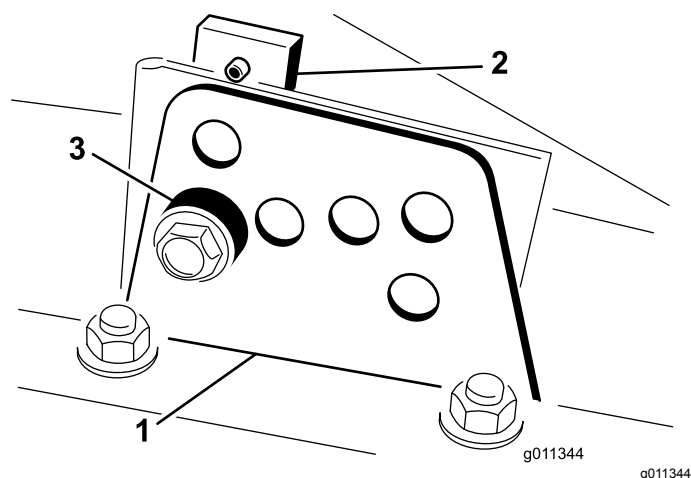

Figure 15
2. Loosen the bolt securing each height-of-cut bracket to the height-of-cut plate (front and each side) as shown in Figure 15.
4. While supporting the chamber, remove the spacer (Figure 15).